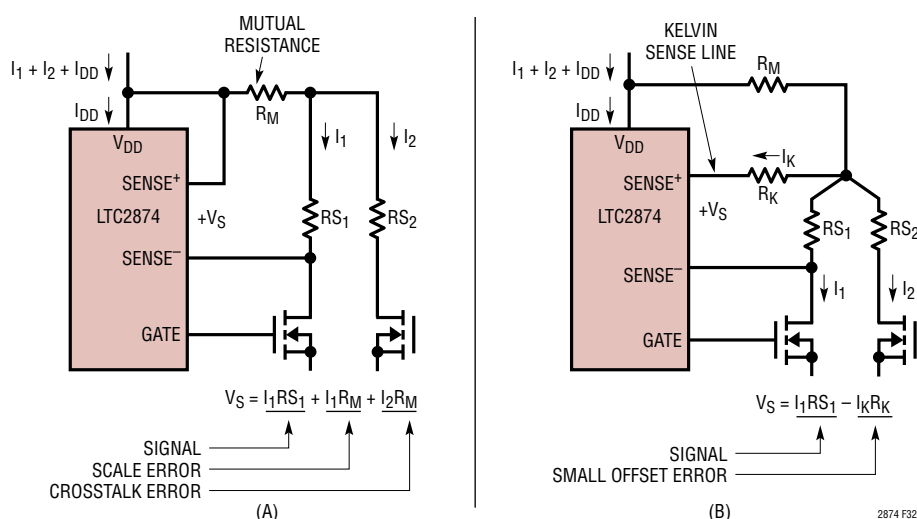

Figure 32. Layout Affects Current Limit Accuracy: (A) Poor and (B) Good Layouts
Figure 32 illustrates the problem. In example Figure 32A, two ports have load currents I_1 and I_2 that connect to V_{DD} through a mutual resistance R_M . R_M represents the combined resistances of any traces, planes, and vias in the PCB that I_1 and I_2 share. The LTC2874 measures the voltage difference between its SENSE+ and SENSE- pins to sense the voltage drop across RS_1 , but as the example shows, R_M introduces errors.
The second example (Figure 32B) shows how to minimize errors using good layout. The circuit is rearranged so that R_M no longer affects V_S , and the SENSE+ connection to the LTC2874 is used as a Kelvin sense trace. It is not a perfect Kelvin connection because all four ports controlled by the LTC2874 share the same sense trace, and because the current through the trace (I_K) is not zero. However, as the equation in Figure 32(B) shows, the remaining error is a small offset term.